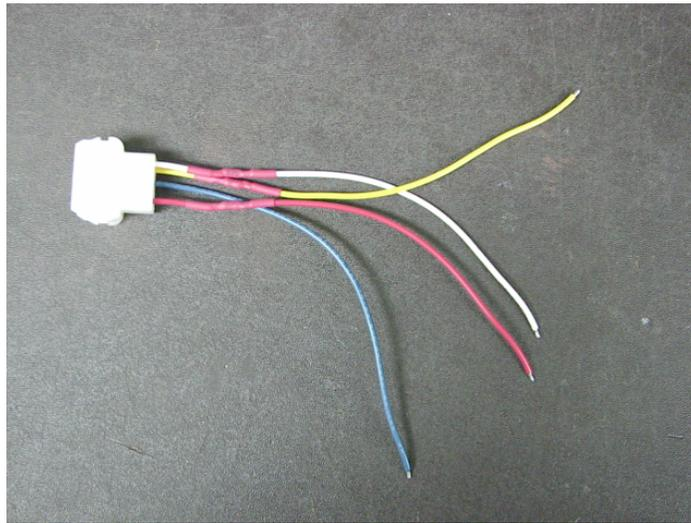

Figure 12. Completed Wire Harness
3. Insert pins into connector shell, as shown in Figure 11. The part number for the connector shell is: Tyco/AMP # 1-480704-0. The completed harness should look like that in Figure 12.